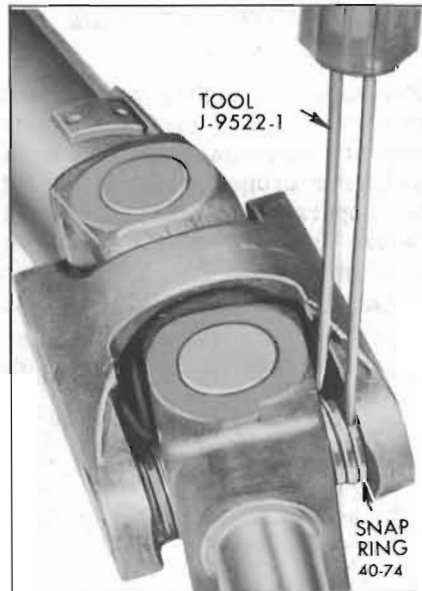

Figure 40-74—Removing Snap Rings From Propeller Shaft
1. Remove snap rings from the bearings. The snap rings are on the inside of the link yoke and can be removed with the assistance of Tool J-9522-1. See Figure 40-74.
1. Remove snap rings from the bearings. The snap rings are on the inside of the yoke and can be removed with the aid of Tool J-9522-1. See Figure 40-74.